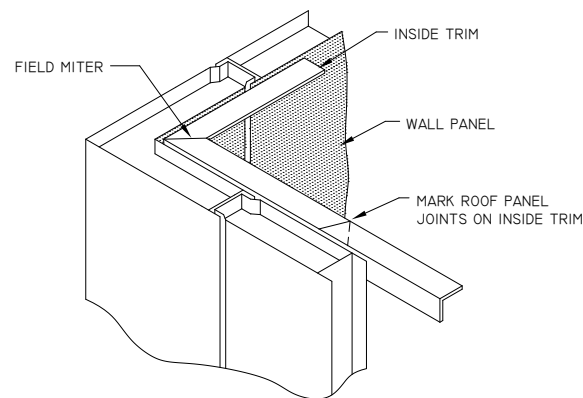

FIGURE 6
- 2) Install inside trim at the joint where the roof and walls meet. The upper edge of the trim must be level and flush with the highest point of the wall panels. (FIGURE 6) Fasten the trim to the assembled wall panels with TEK® screws through every panel joint and at 12" on center between joints.
- 3) Mark roof panel joints (as dimensioned on the panel layout drawings) on the inside trim before installing roof panels. (FIGURE 6) Take into account the 1" male edge allowance where indicated on the drawings.